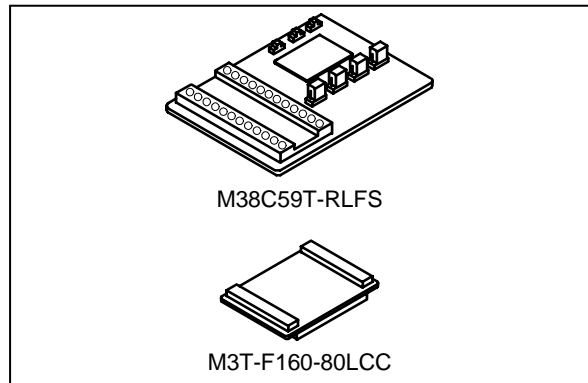

Figure 1 Package components of the M38C59T-RLFS
2. Package Components (See Figure 1)